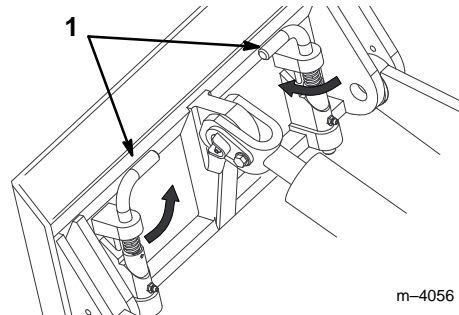

Figure 8
5. Engage the attachment lock pins (Fig. 8).